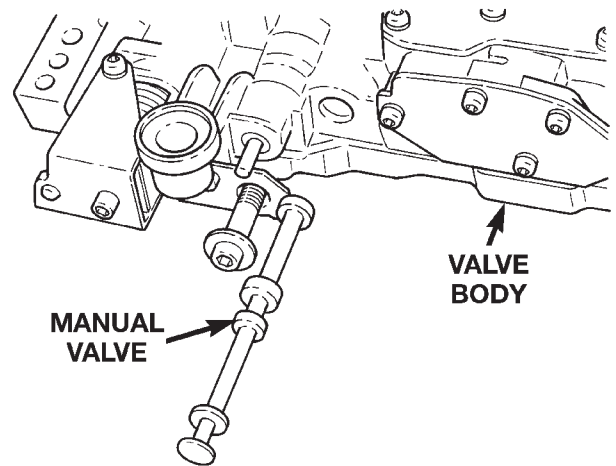

Fig. 69 Manual Valve
(41) Install manual valve into valve body (Fig. 69).